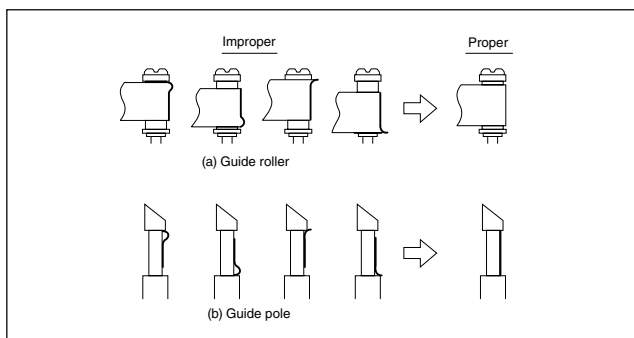

Fig. 2-3-1d
- (7) Unload the cassette tape once, play back the alignment tape (A1) again and confirm the V.PB FM waveform.
- (8) After adjustment, confirm that the tape wrinkling does not occur at the roller upper or lower limits. (See Fig. 2-3-1d.)